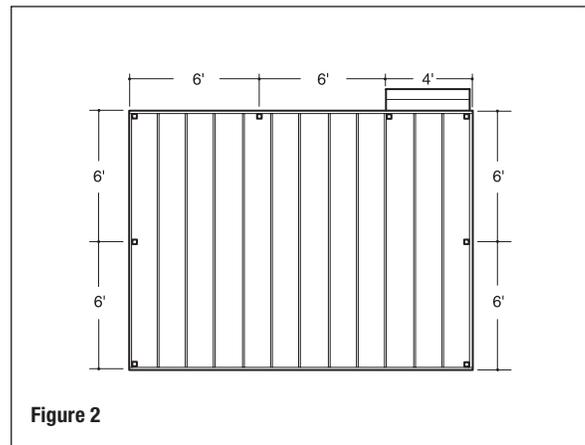

Figure 2
**Step 1** Determine the number of railing posts needed for your deck. *Post spacing is 6' on-center.* Example: A 12x16 deck attached to a building with a 4' access opening on one side will require a total of eight posts (**Figure 2**).